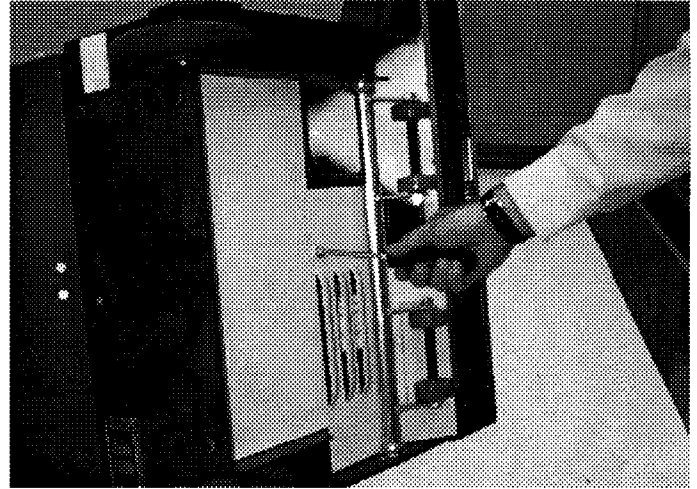

FIG. 14
1. Tip machine on its left side and remove three screws holding lower access panel in place. Remove panel from base. (Figure 14)